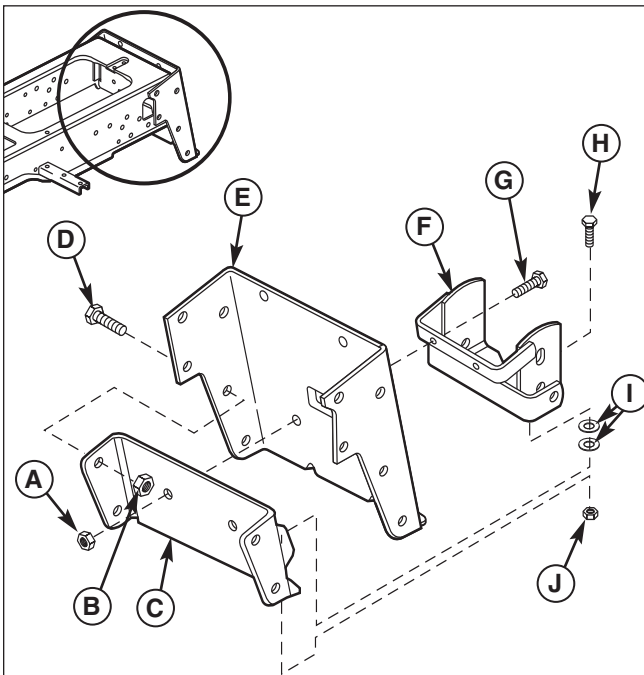

Figure 5. Hitch Support and Drawbar Installation
1. Install the lower drawbar hitch (F, Figure 5) on the outside of the rear frame wrapper (E) and the hitch support (C) on the inside. Secure both to the rear frame wrapper (E) using two 5/16-18 x 1-1/4 capscrews (G) and two 5/16-18 nylock nuts (A).
2. Secure the bottom of the lower hitch (F) to the drawbar using two 1/2-13 x 1-1/2 capscrews (H), washers (I), and two 1/2-13 nylock nuts (J).
3. Secure the sides of the hitch support (C) using four 3/8-16 x 1 capscrews (D) and four 3/8-16 nylock nuts (B).